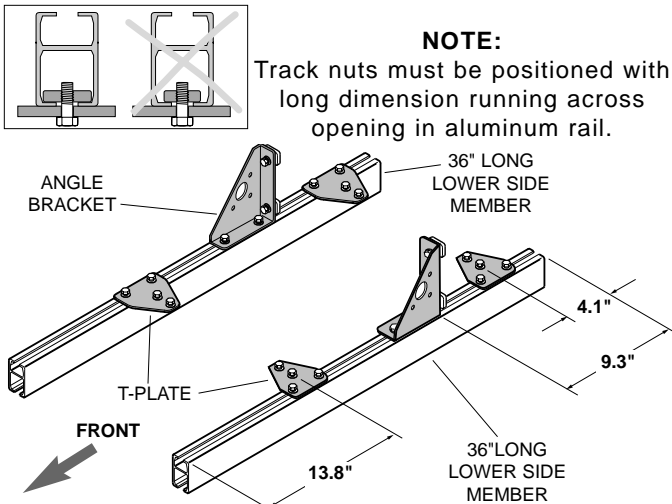

Figure 2.
2. Locate two 36" long lower side members, two angle brackets and four T-plates. Place aluminum side members on floor with large slot down. Affix angle brackets and T-plates to side members by sliding track nuts into aluminum rails. Position as shown in Figure 2, and tighten track nuts to secure.